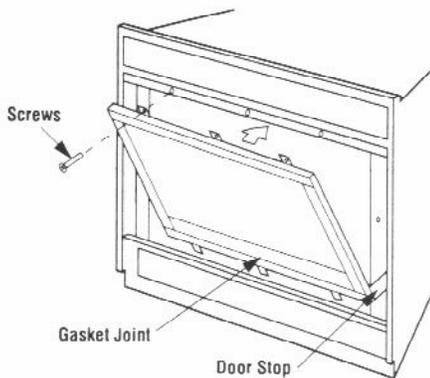

Figure 44
Position the door frame in front of the firebox opening, with the joint in the gasket down (Figure 44). Locate the three (3) tabs at the bottom edge of the door frame into the three (3) brackets at the base of the fireplace front opening. Lean the door frame back towards the fireplace ensuring that the gasket seats evenly as the door frame draws shut. Install the three (3) ¼"-20 x 1" Phillips pan head screws removed previously and tighten to secure. Ensure that the tab on the bottom of the door frame engages the door switch.